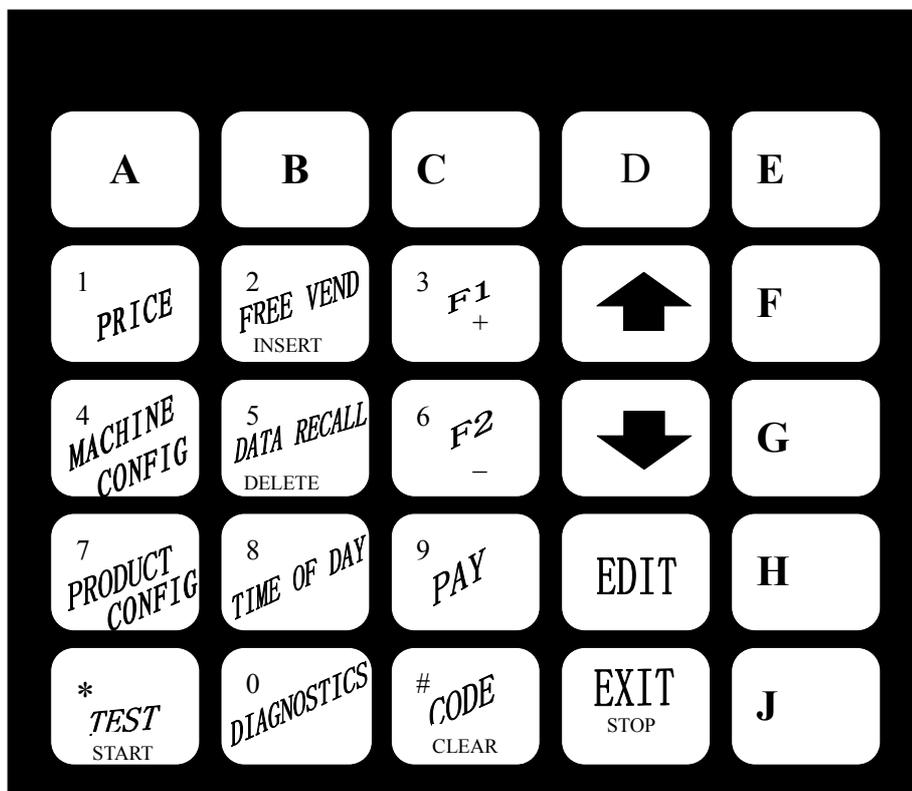
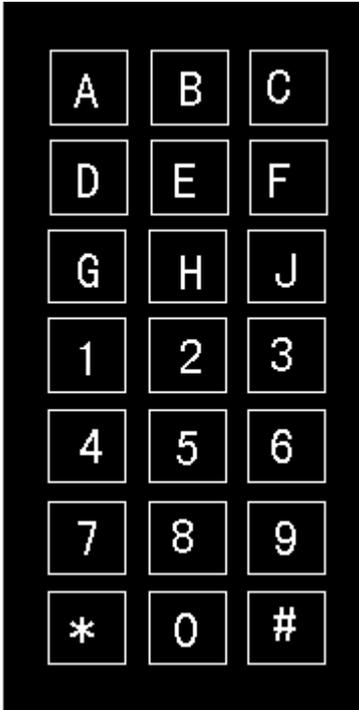

Figure 1. The Control Panel
Figure 2. Selection Panel
1. Place a spirit level on the top front edge of the cabinet with the door fully closed. Adjust the front legs only until the cabinet is reasonably level (figure 1).
3. Adjust the back legs so that the back leg leveler on the hung side is off the floor just enough so a piece of paper can slide under it with only a bit of resistance (figure 2).
How to program your merchandiser, some setup, test, and maintenance operations is microprocessor controlled. The control panel switches (see figure 1) and the selection panel switches (see figure 2) regulate these operations. Please turn to Chapter 3 Model KVM-G636/G424 Interior View to find the location of the control panel, and turn to Chapter 2 Model Identification to find where the selection panel is.